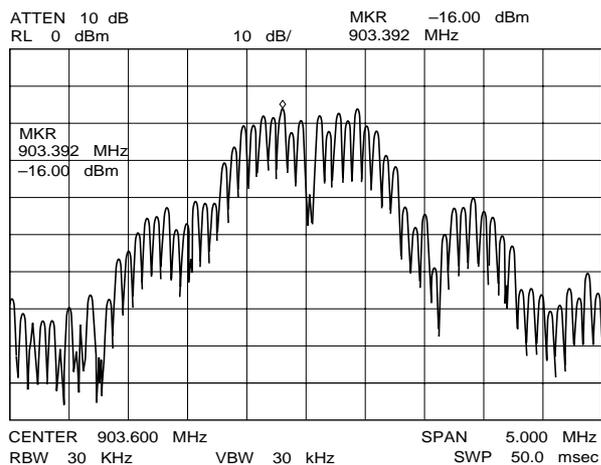
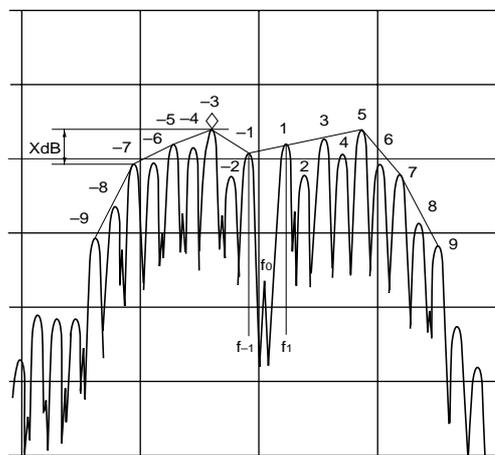

Fig. 1
Fig. 2
- Acceptable level [XdB] difference between the highest peak and the lowest peak of odd side band (the first to seventh side band from Center Frequency ; Transmission Frequency fo: CH1) is under 10 dB. (Refer Fig. 1 and Fig. 2)